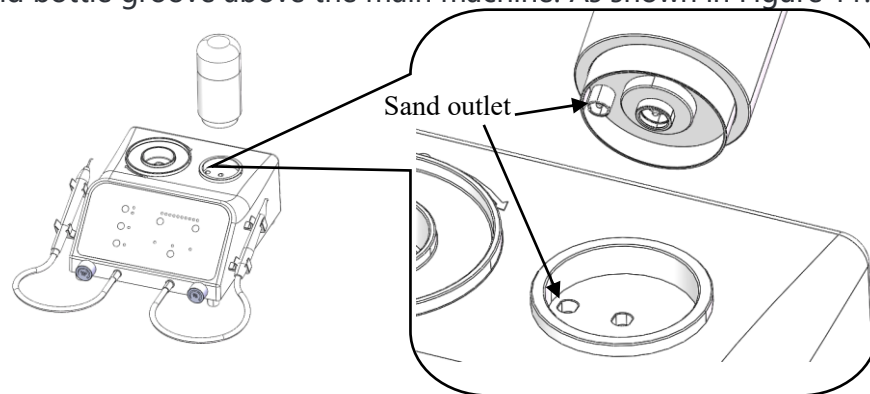

Figure 11.1 Schematic diagram of sand bottle installation
- 6) Load an appropriate amount of sand powder into the sand bottle (the amount of sand powder into the sand bottle shall not exceed the mark line of "Max"), align the sand outlet of the sand bottle with the sand outlet of the main machine, and then vertically insert it into the sand bottle groove above the main machine. As shown in Figure 11.1;